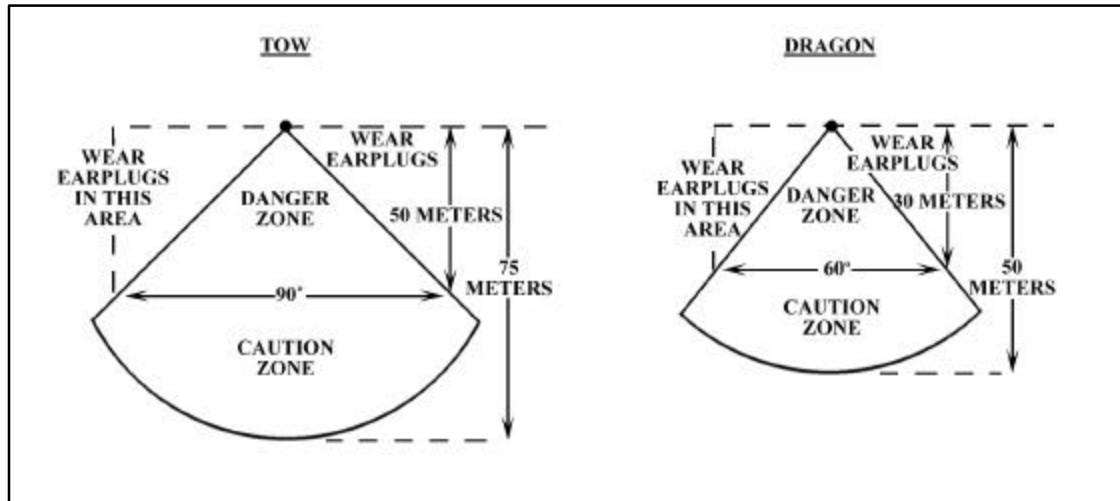

Figure B-9. ATGM Backblast in an Open Street
(3) **Backblast.** Backblast for ATGMs is of more concern during combat in built-up areas than in open country. Any loose rubble in the caution zone could be picked up and thrown by the backblast, and the channeling effect of walls and narrow streets is even more pronounced due to the greater backblast. If the ATGM backblast strikes a wall at an angle, it can pick up debris or be deflected and cause injury to unprotected personnel (Figure B-9). Both types of ATGM can be fired from inside some buildings. In addition to the helmet and protective vest, eye protection and earplugs should be worn by all personnel in the room.